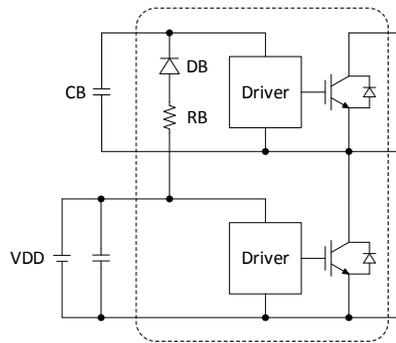

Figure 19. Bootstrap Circuit
VBW The VBx pins are internally connected to the positive supply of the high-side drivers. The supply needs to be floating and electrically isolated. The bootstrap circuit shown in Figure 19 forms this power supply individually for every phase. Due to integrated boot resistor and diode (RB & DB) only an external boot capacitor (CB) is required.